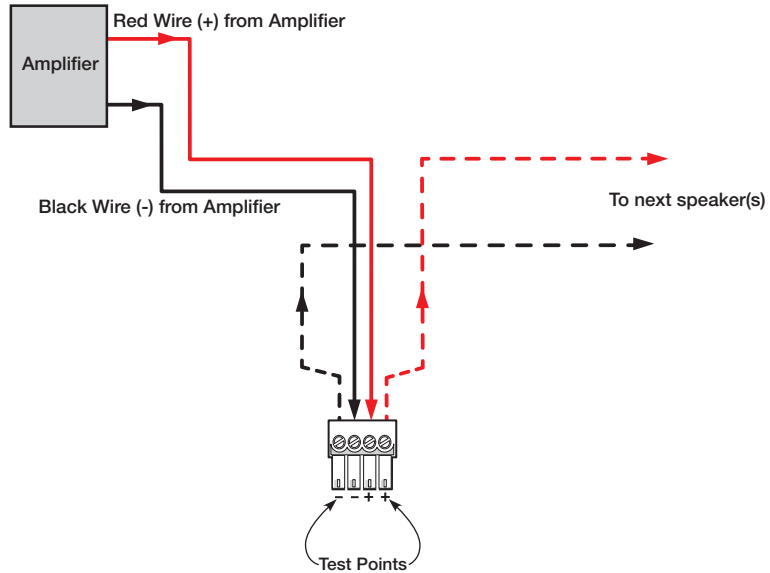

Figure 41. Impedance Test Points – Loop-through Configuration
- The impedance of the speakers downstream of the one being tested can be measured while the system is on by connecting to the outer (LOOP) terminals of the captive screw connector, as shown in figure 41.